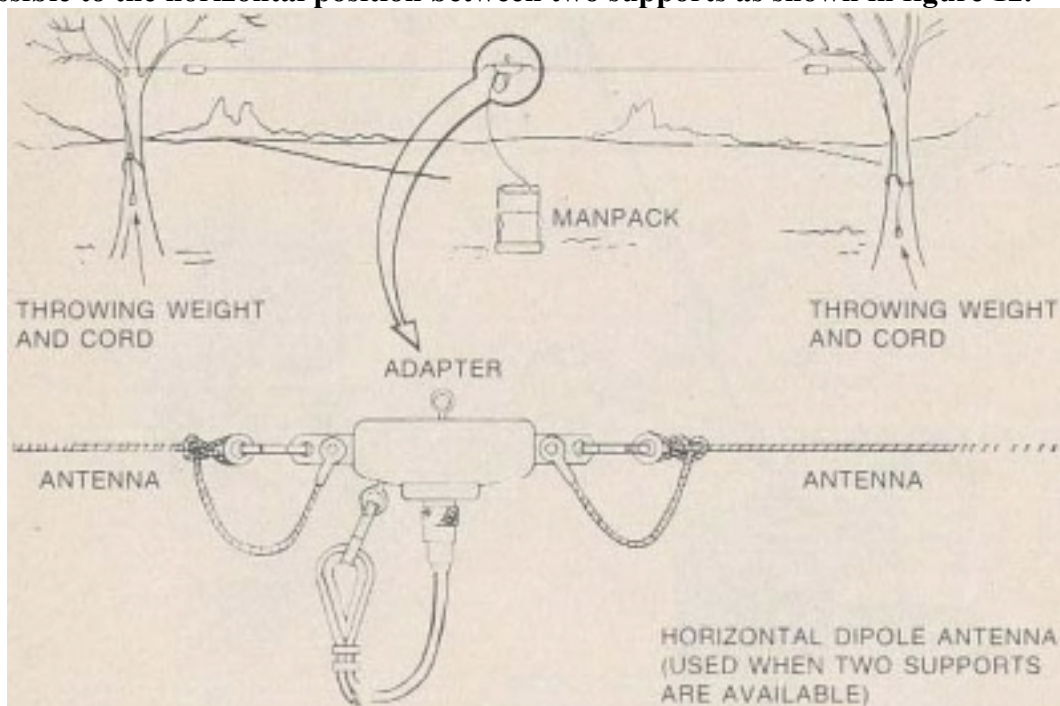

Figure 12. Horizontal Orientation of 938A-1 Antenna
E. Erect the antenna with the wire as high as possible. A minimum height of $1/4 \lambda$ (λ is wavelength in meters) is recommended. Also, erect the antenna as close as possible to the horizontal position between two supports as shown in figure 12.